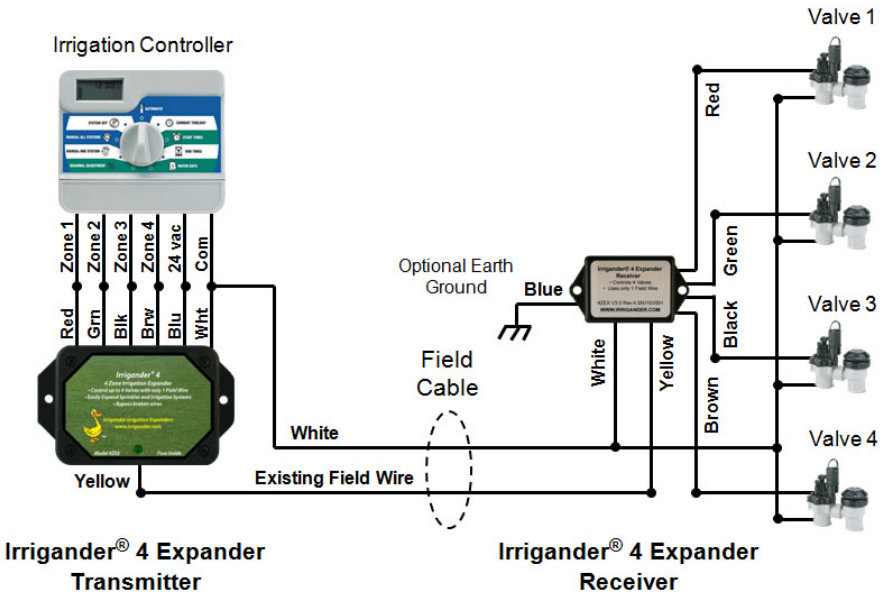

Figure 1 – Typical Installation
The **Irrigander 4 V3** expander is comprised of two modules: a transmitter that is installed close to or inside the irrigation controller; a receiver that is installed close to the irrigation valves to be controlled. The transmitter attaches to the irrigation controller using 6 wires: 4 inputs for the zones to be controlled; the system common; and 24 VAC. The transmitter is attached to the receiver using one dedicated field wire plus the system common wire. These wires are typically the existing field wires in the irrigation system to be expanded. The receiver has 4 outputs that are attached to each of the up to 4 valves to be controlled. See Figure 1 for a typical installation.
3. Connect the receiver common (**WHITE** wire) and one side of all the valves to be controlled by the receiver to a system common connection (typically the white field wire) using waterproof wire nuts or splices. See Figure 1 for details on the common connections of the receiver and valves.